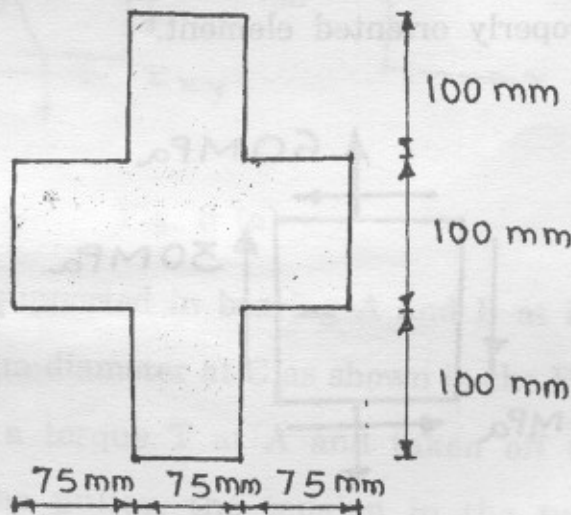

Fig. 5 (a)
5. (a) Draw the shear stress distribution for the cross-section as shown in the Fig. 5 (a), if it is subjected to maximum shear force of 225 kN. [9]